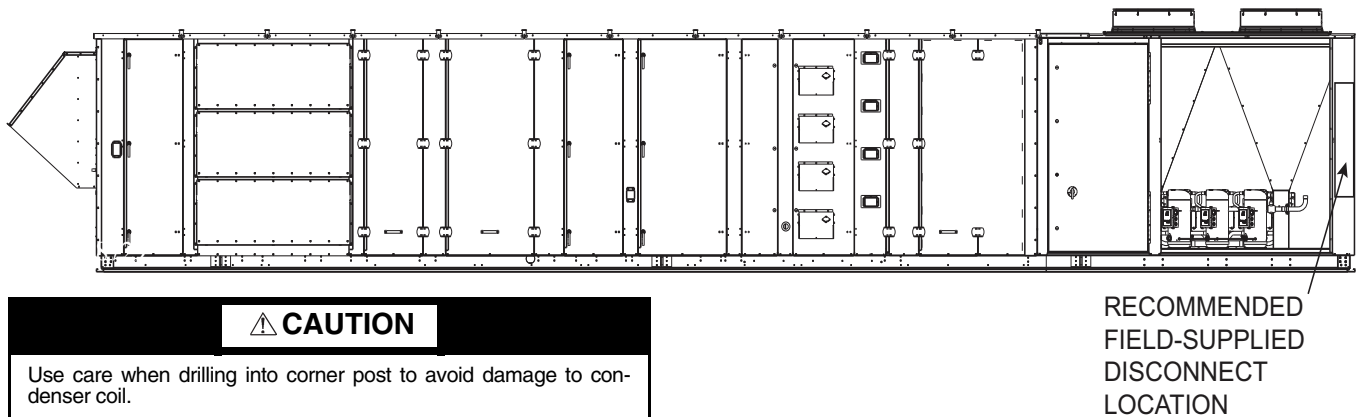

Fig. 31 — Disconnect Location
5. Install the hood with the humidity sensor, second hood from the bottom on the right hand damper. See Fig. 31. Route the wire harness attached to the damper to the humidity sensor and attach the wires to the sensor terminals per the markings on the harness.
See Fig. 31 for recommended disconnect location.